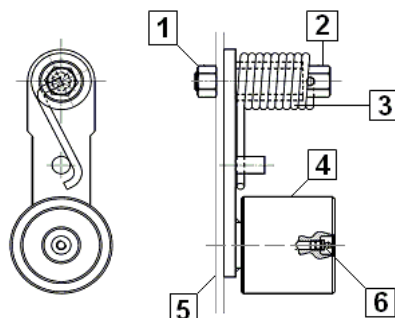

Fig.31
- Mechanical breakage of the automatic tensioner spring, Fig. 31;